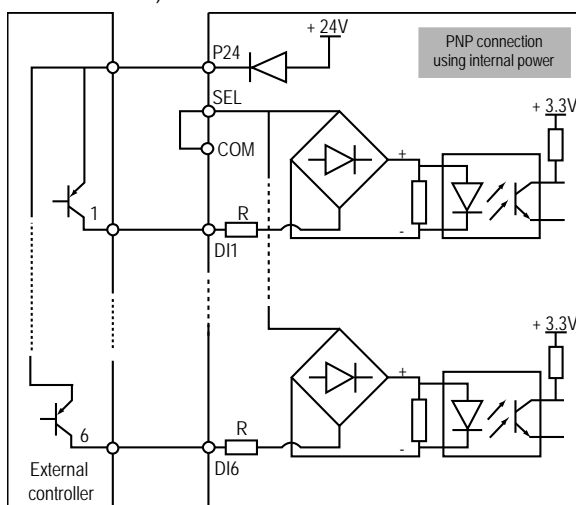

Figure 4-12 PNP signal input connection when using internal 24V power
4. If the inverter's internal +24V power supply is used, the common emitter output connection of the PNP transistor in the external controller is as shown in Figure 4-12. (Note that the SEL and the P24 are not short-circuited)